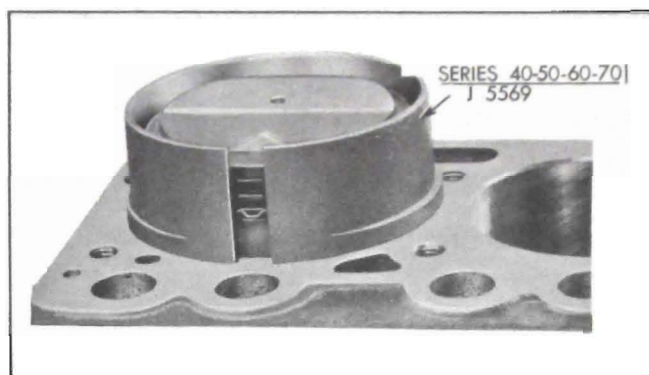

Figure 2-36—Installing Piston with Ring Compressor
11. Make sure that gap in oil rails are on same side as valve depressions in piston head so that gap will be on high side of cylinder bore, turn compression rings so that gaps are not in line, then compress all rings with Ring Compressor. See figure 2-36.